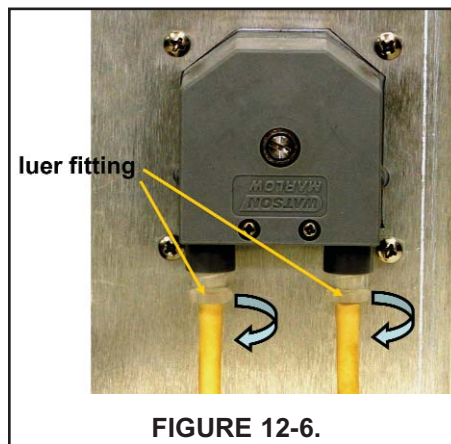

FIGURE 12-6.
3. Luer fittings connect the reagent tubing to the pump. Disconnect the tubing by turning the fitting in the direction of the arrows shown in Figure 12-6.
3. Luer fittings connect the sample tubing to the pump. Disconnect the tubing by turning the fitting in the direction of the arrows shown in Figure 12-6.
2. The reagent and sample tubing is connected to the pump tubing with luer fittings. See Figure 12-6. Disconnect the fittings from the pump by turning the fitting in the direction of the arrow.